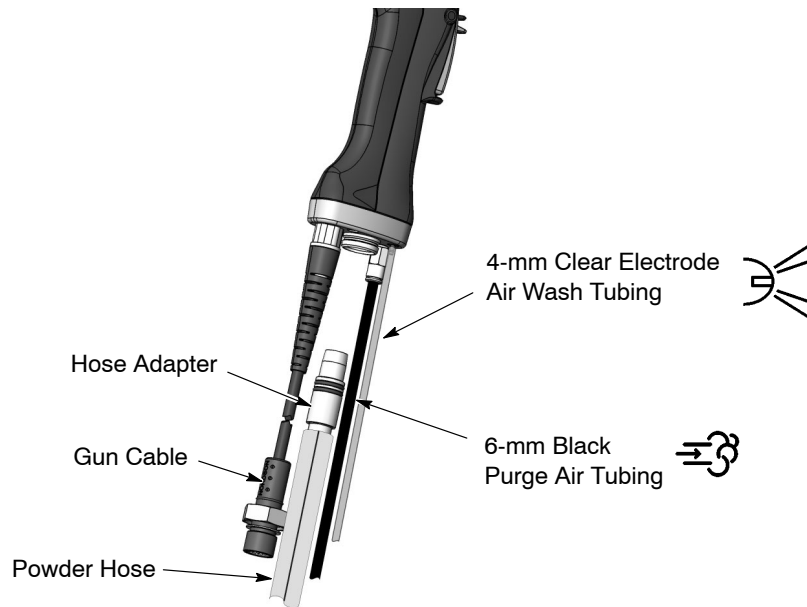

Figure 3-12 Gun Connections
1. See Figure 3-12. Connect the 6-mm black air tubing to the quick-disconnect fitting in the gun handle.